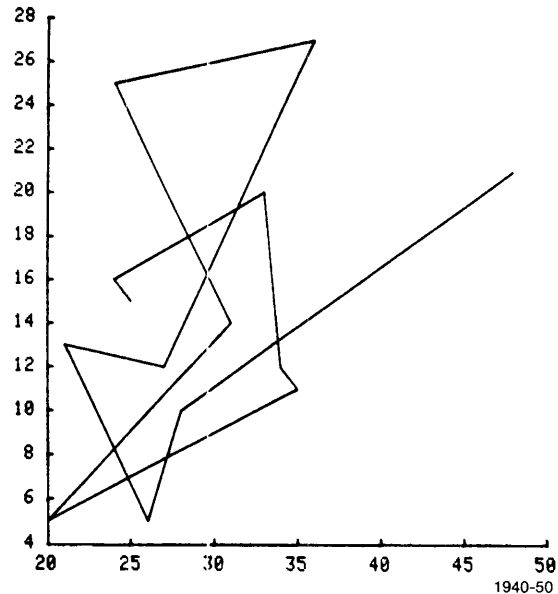

Figure 5-9. X vs Y Data Plot in Line Plot Mode.
Let's select item 2 and plot the graph shown in Figure 5-9.